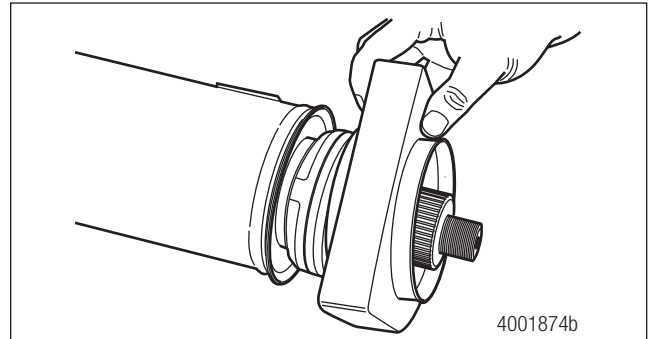

Figure 10.13
2. Remove and discard the rubber cushion. Figure 10.13.